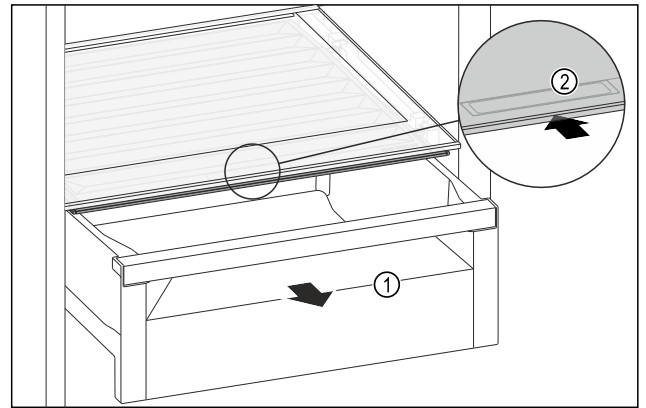

Fig. 124
- ▶ Pull out the drawer Fig. 124 (1).
- ▶ Grasp the recessed grip Fig. 124 (2) on the compartment lid and push the compartment lid backwards at the same time.